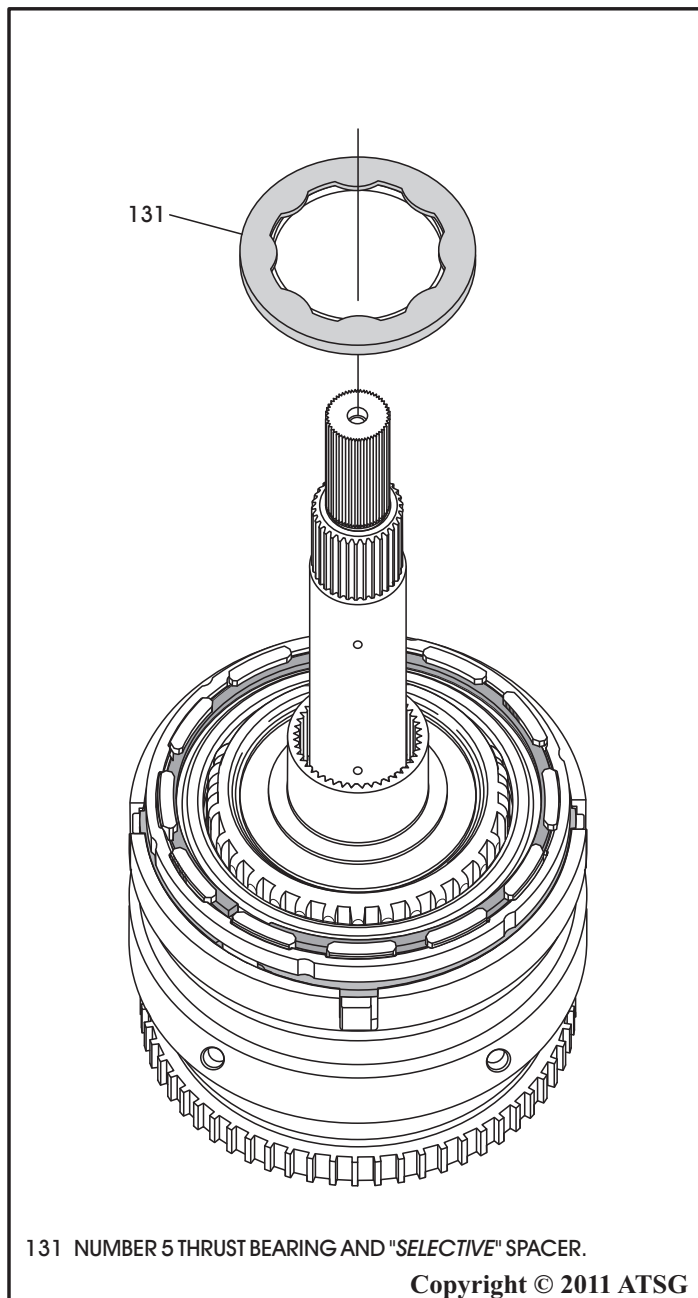

Figure 108
50. Install the number 5 thrust bearing and selective spacer on the back side of reverse clutch hub, as shown in Figure 108 and retain with TransJel®.